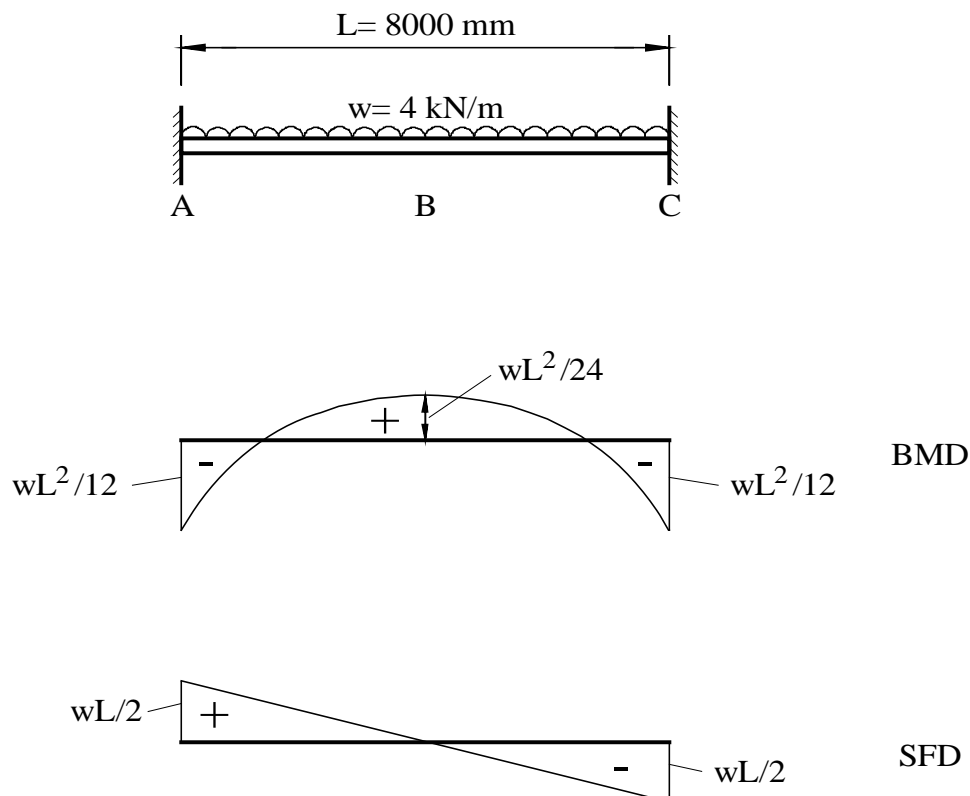

Figure 3
- b) A beam ABC is built in at both ends and subjected to a distributed load $w = 4.0 \text{ kN/m}$ applied downwards to the top flange. The Bending Moment Diagram (BMD) and Shear Force Diagram (SFD) are as shown in Figure 3. The beam is being bent about the x -axis.